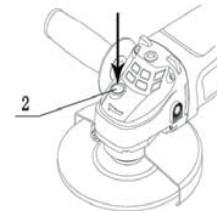

Figure 5
B.Place the grinding(10) or cutting disc (11)on the top of the inner flange ensuring the bore fits into the step of the flange;
C.Mount the concave recess side of the outer flange (12) over the spindle;
D.Press the spindle locking button (2) firm and ensure there is no movement in the spindle. Then while the spindle lock is depressed tighten the outer flange in a clockwise direction using the spanner (13).(See figure 5)